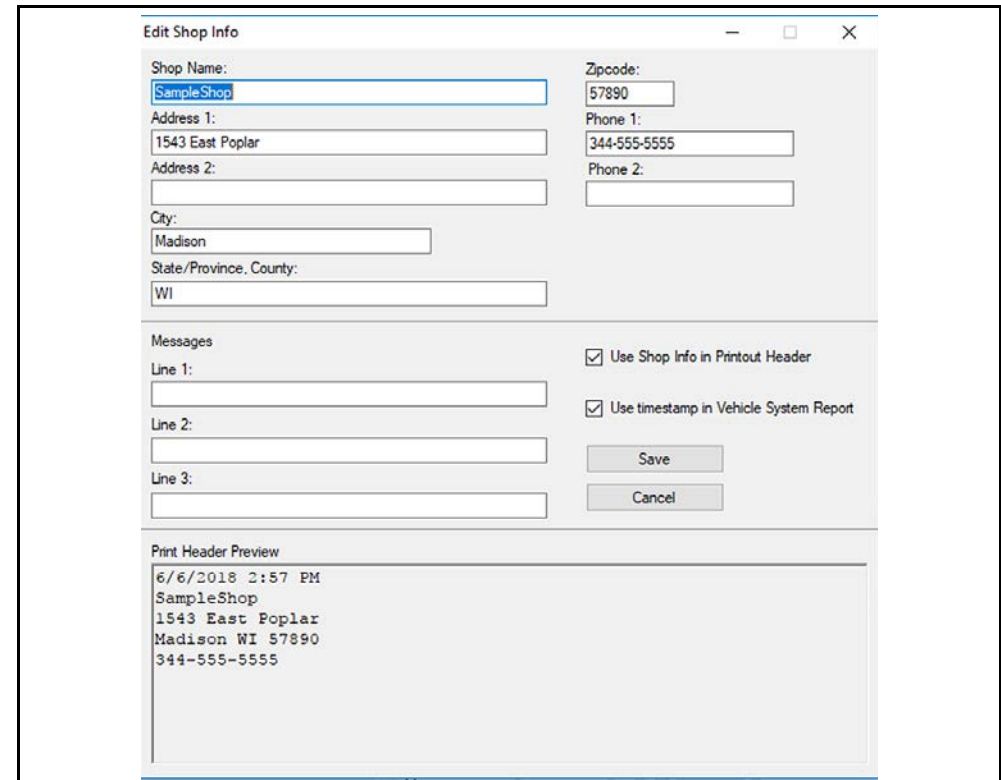

Figure 16-9
2. The **Shop Info** dialog box opens (Figure 16-9) allowing you to enter the name address, and phone number for your shop. This information is included as a header on the report.
A preview panel at the bottom of the box shows how the information will appear on a print out (Figure 16-9).
3. Check the **“Use Shop Info in Printout Header”** box to show the Shop Info in the printout (Figure 16-9).
4. Check the **“Use timestamp in Vehicle System Report”** box to show the time the vehicle was scanned in the printout (Figure 16-9).
5. When you are finished editing, select **Save** (Figure 16-9) to save the information and close the dialog box.